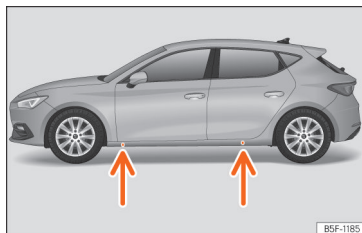

Fig. 242 Jack position points.
- Look on the strut for the mark of the jack support point (sunken area) closest to the wheel to be changed >>> Fig. 242.